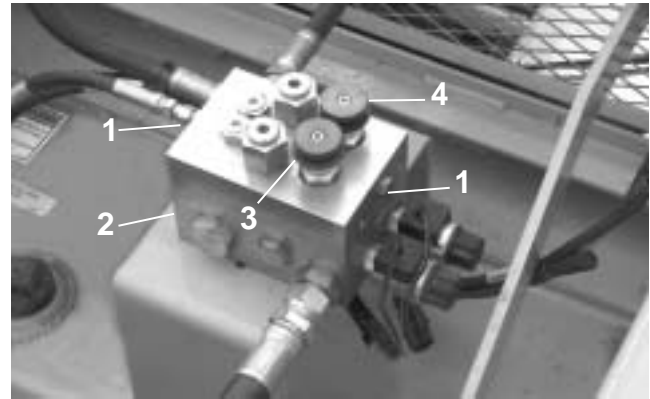

Figure 29. Conveyor Manifold
1) Install a 1000 psi gage, with a shutoff valve in the port marked “TP” on the conveyor manifold located on top of the hydraulic reservoir (Fig 29 Ref 2). This port is SAE 04 and requires a 9/16 wrench to remove the plug.
4) Install a 5000 psi gage in the port marked “TP” on the conveyor manifold located on top of the hydraulic reservoir (Fig 29, Ref 2). Remove the pressure hose plumbed to the left conveyor at the manifold and cap the adapter in the port marked “A2” with a 1/2” (08) JIC hydraulic cap.